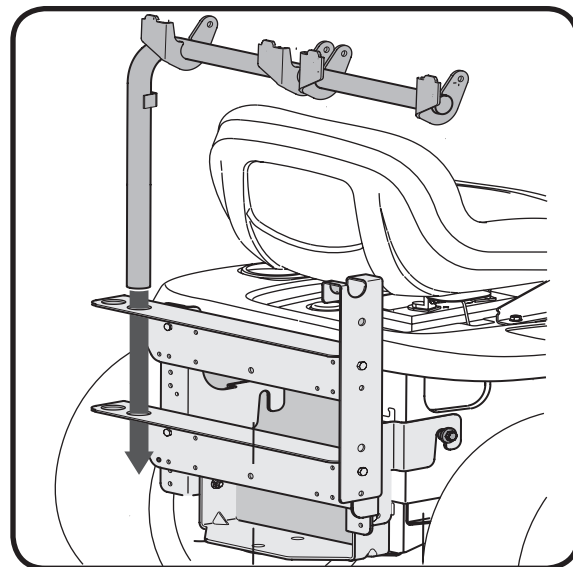

Figure 4-1
1. Place the support tube in position on the rear of unit by sliding the support tube down through the holes in the left side of the bracket assembly. Use the inside hole on the bracket assembly regardless of what size deck your tractor is equipped with. Refer to Fig. 4-1.